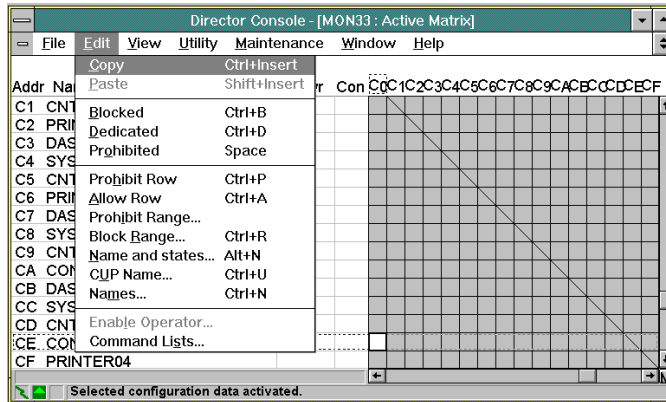

Figure 3-19. Figure Block Address Range
- a. From the Console, pull down the *Edit* menu on the Director's active matrix window and select *Block Range* (Figure 3-19).